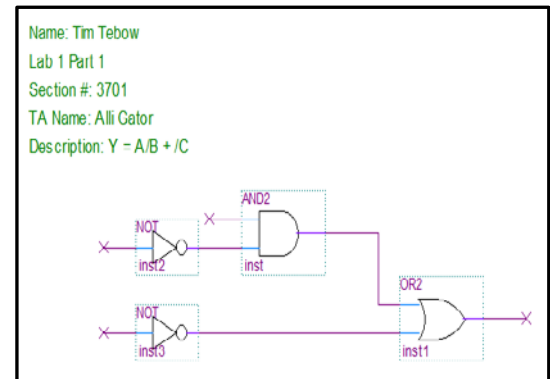

Figure 3: Bdf with wires
6. Add the rest of the wires needed to connect the logic diagram. Add small input lines where the three inputs will be placed and an output line where the output will be placed. Your bdf should look similar to Figure 3.